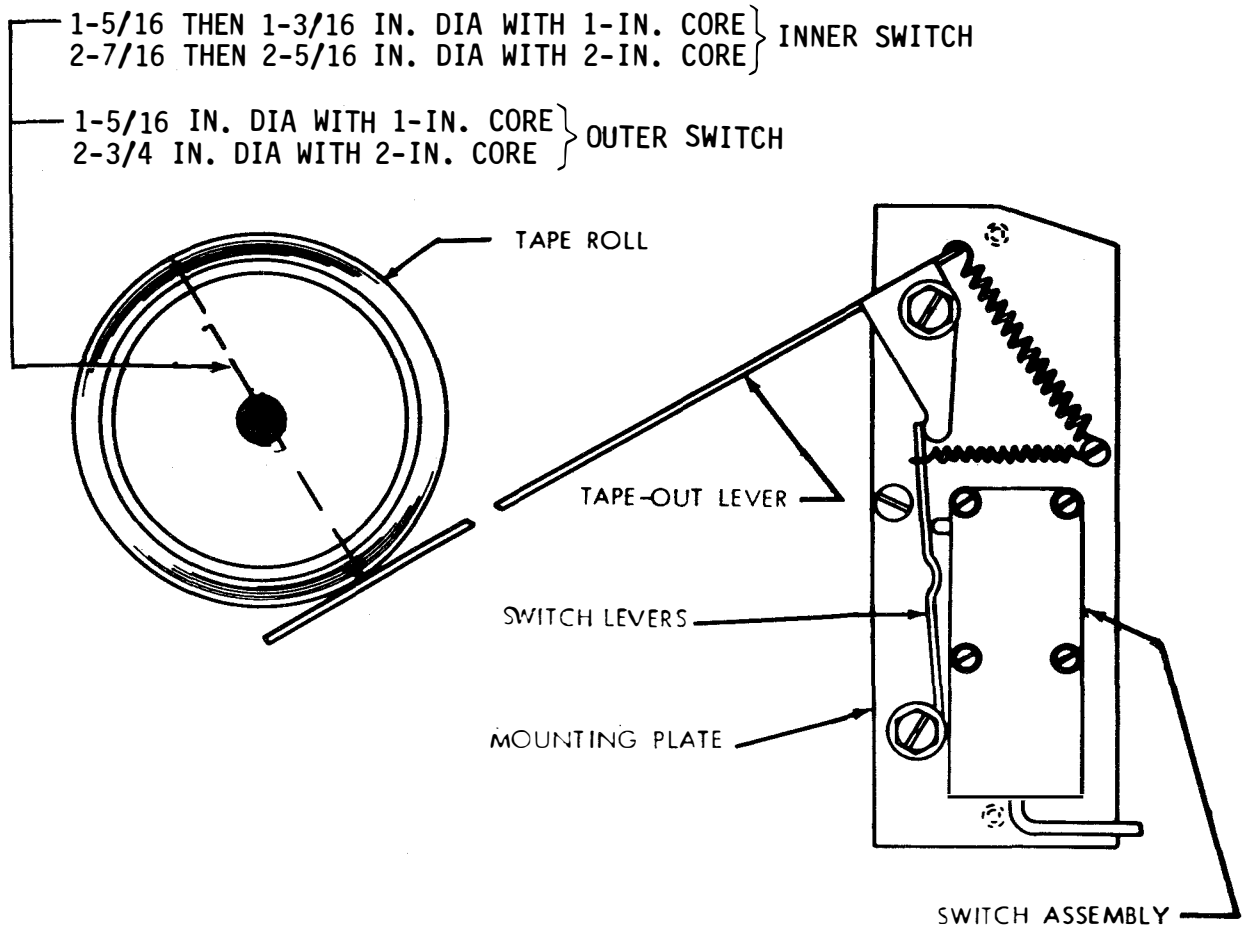

Figure 6-147. Switch Lever - Right Side View
1. Refer to figure 6-147.
1. Refer to figures 6-147 and 6-148.